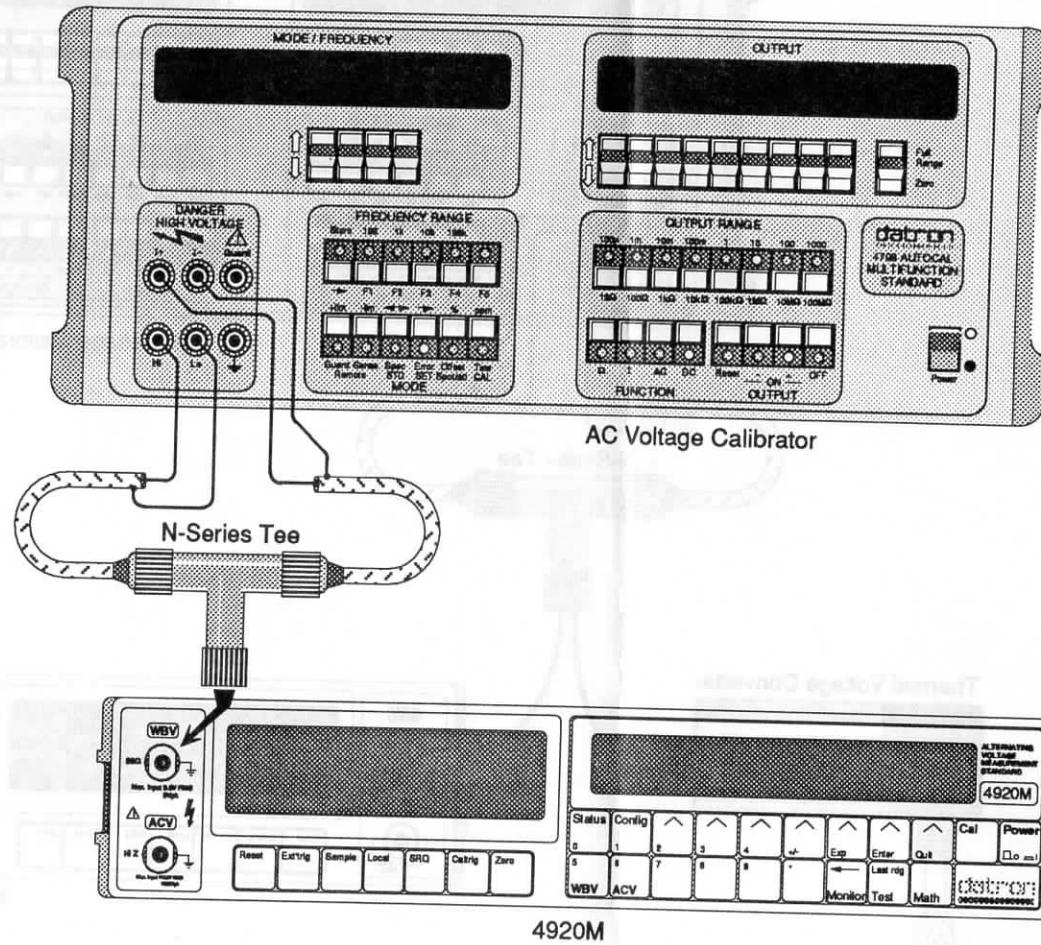

FIG. 8.3 WBV LF CALIBRATION - INTERCONNECTIONS
1. Connect the AC voltage calibrator to the 4920M as shown in Figure 8.3 and select the 4920M's WBV function.